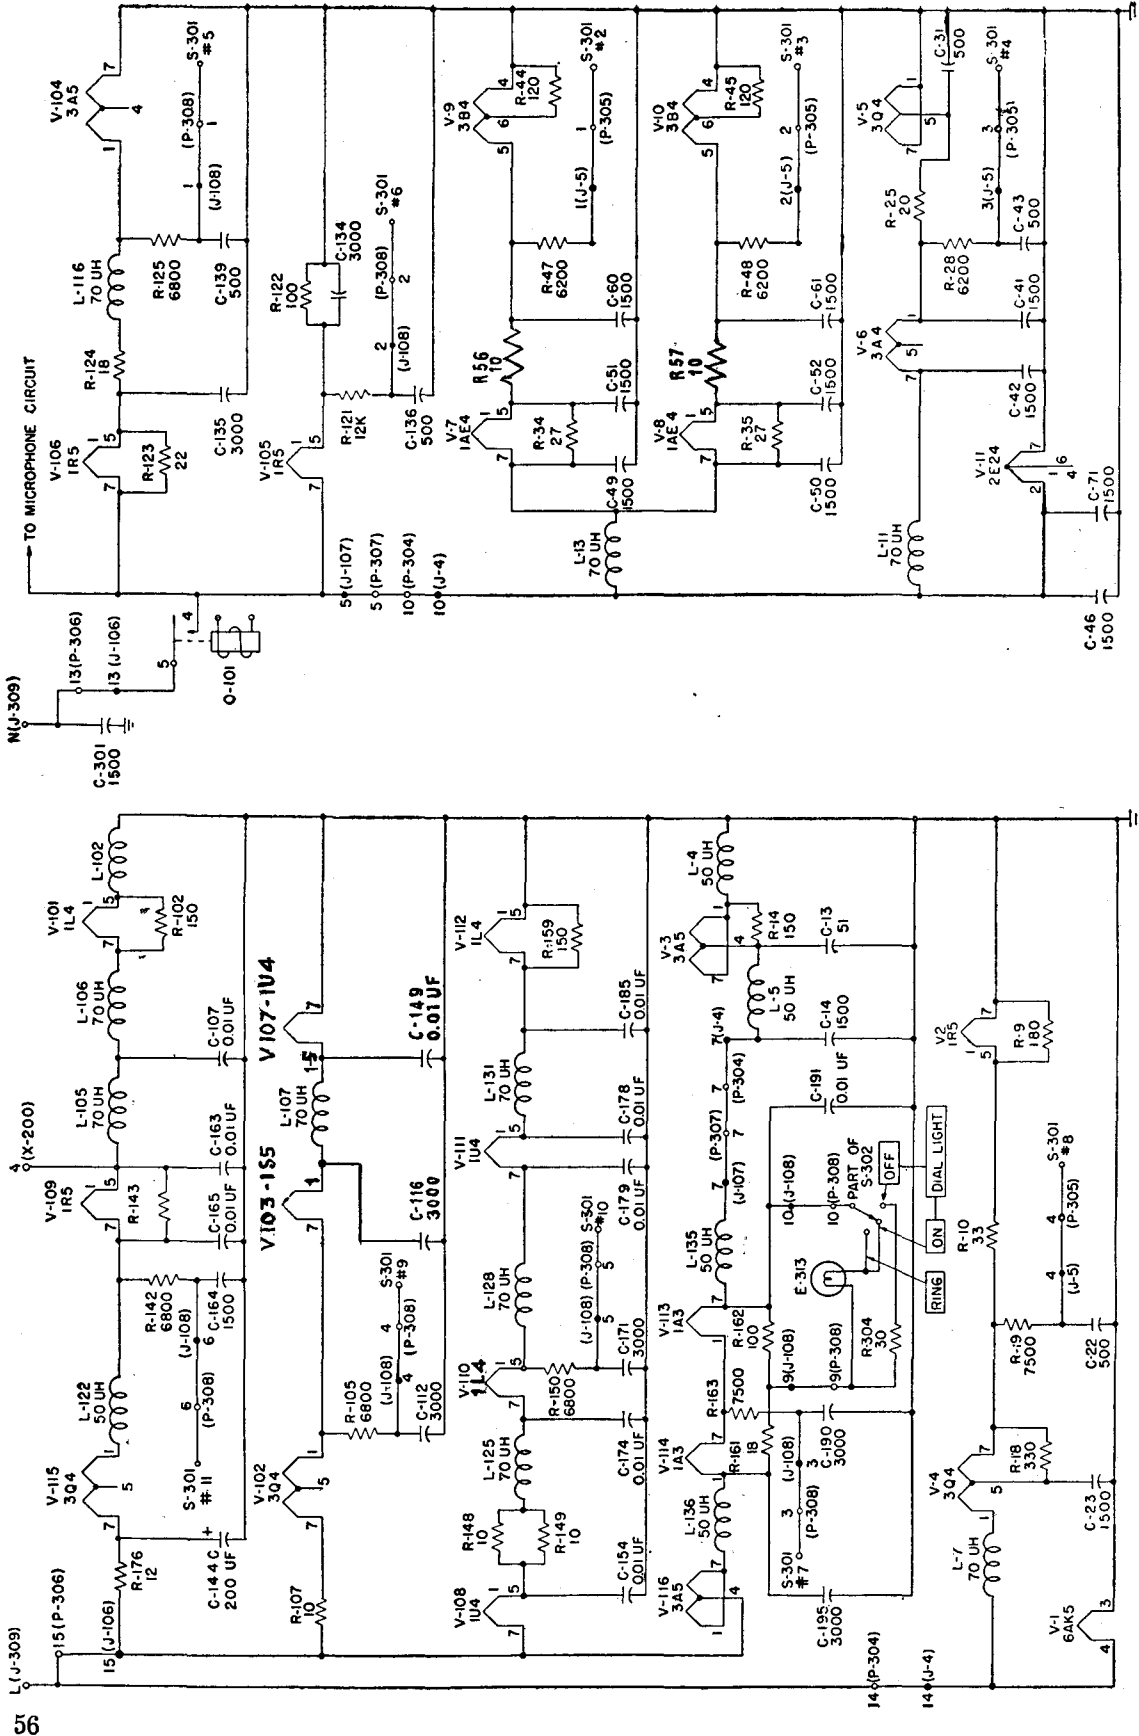

Figure 31. Filament circuits, functional diagram.
- (2) Contacts 4 and 5 extend the 6.3-volt supply from terminal N of J-309 to the filaments of transmitter tubes V-104, V-105, V-106, and tubes V-5 through V-11.
- (3) Contacts 6 and 7 apply ground return to the control relay in Power Supply PP-109/GR or PP-112/GR, through terminal K of J-309. The transmitter power supply circuits are not energized until this connection is made (b above).
- (4) Contacts 9 and 10 open to remove the +85 volts supply from the plate and screen of V-1. Contacts 8 and 9 close to connect the 85-volt supply lead from terminal B of J-309 to the plates and screens of V-104, V-105, and V-106.
42. Filament Circuits (fig. 31)
a. The filaments of the tubes in the receiver-transmitter are arranged in two groups. One group includes all receiver filaments and those of the crystal oscillator-harmonic generator and first harmonic amplifier. These are energized by direct connection to the filament supply lead, terminal L of J-309. The other group includes all transmitter tube filaments (including the second harmonic amplifier) which are energized when contacts 4 and 5 of relay O-101 close (par. 41) and connect these filaments to the transmitter filament supply lead, terminal N of J-309. The filaments in each group are arranged in several 6.3-volt, series-parallel strings (fig. 31).